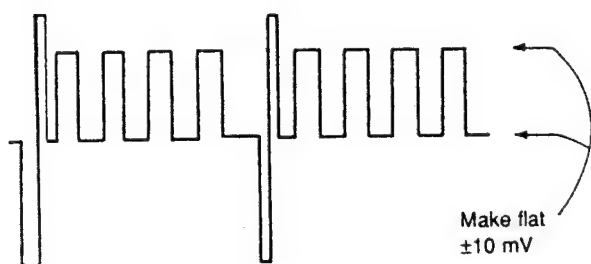

Fig. 2-8.
4. As shown in Fig. 2-8, adjust the B-Y PULSE LEVEL data so that the BLUE waveform becomes flat.